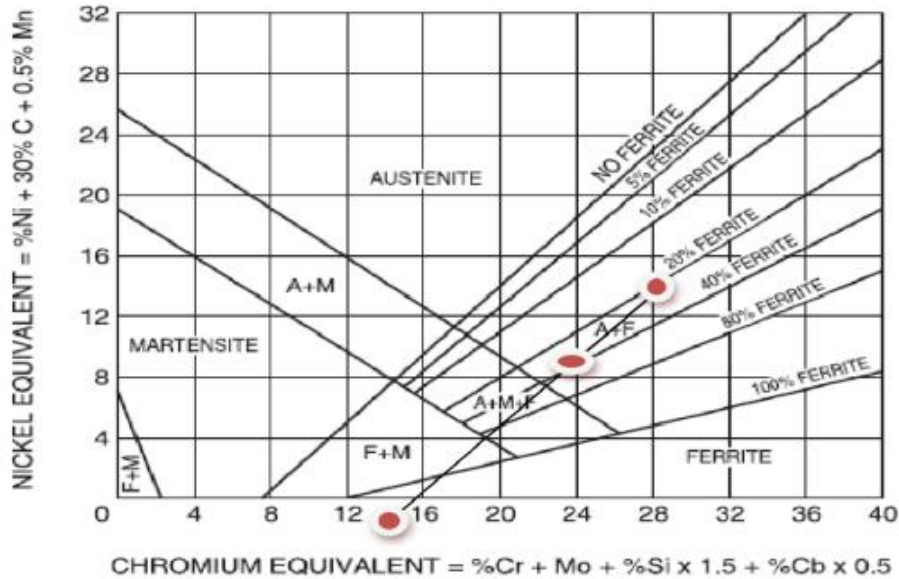

Fig Q3 Schaeffler diagram
- (i) Using the Schaeffler diagram provided (figure Q3), define the likely phase constitution(s) obtained in the stainless steel grades upon solidification under equilibrium conditions. The nickel equivalent ($Nieq$) and chromium equivalent ($Creq$) can be calculated by using the expressions provided below: